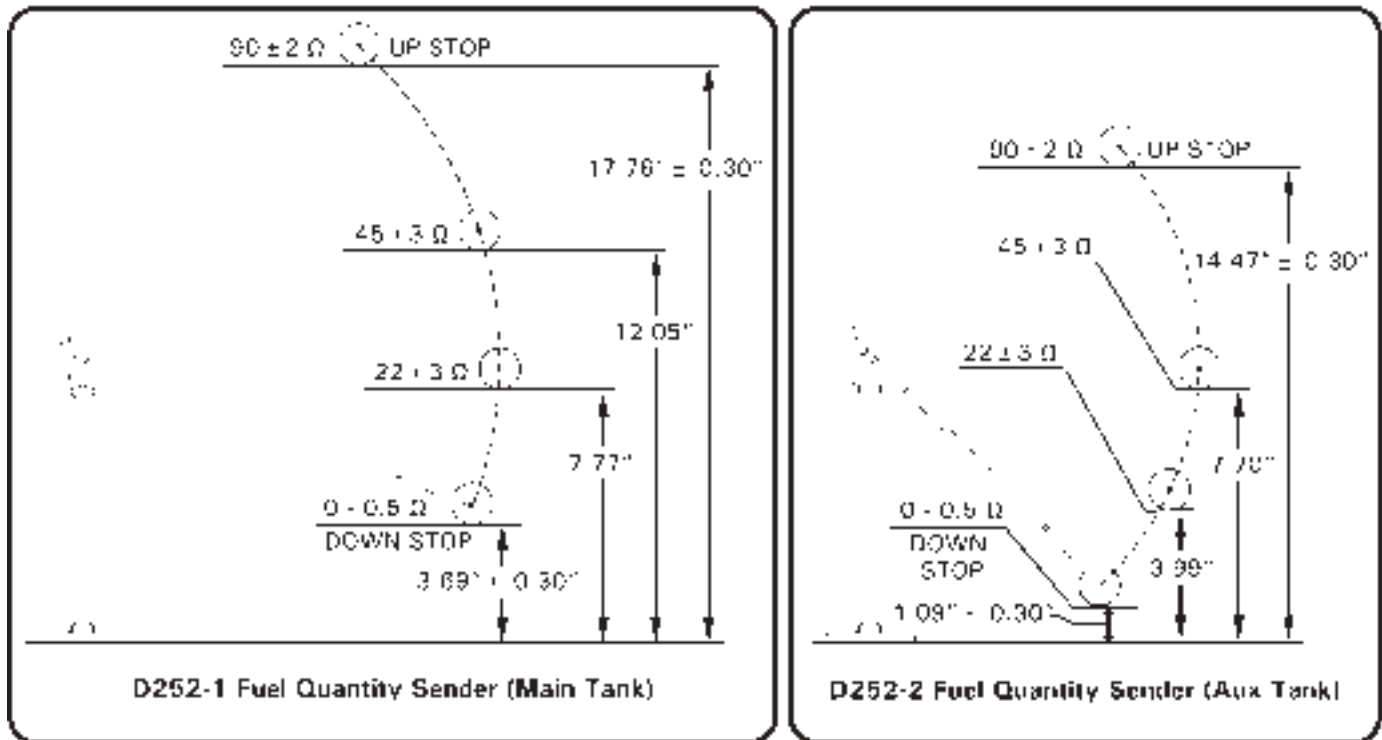

FIGURE 12-6 FUEL QUANTITY SENDER CHECK
2. Simulate mounting position of appropriate sender per Figure 12-6. Position float arm as shown and measure the resistance with a multimeter. Verify resistance is within tolerance at four noted heights.